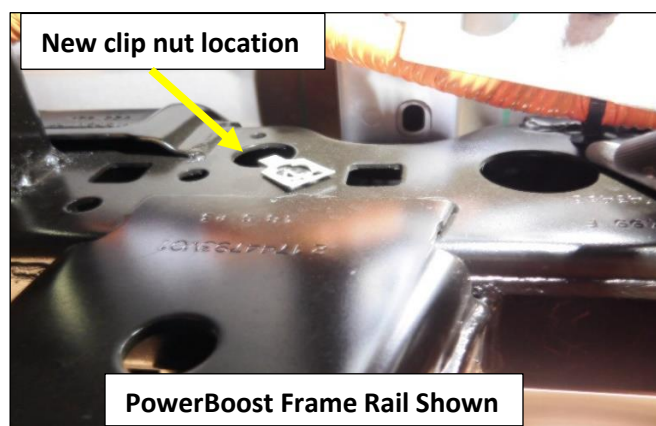

Figure 11
The FACTORY left side tailpipe frame hanger assembly will not be used for Non-Hybrid or PowerBoost models. The Flowmaster Frame hanger 535HA (17) will be installed in its place. It will be necessary to relocate the factory clip nut to a different location in the frame rail if it is not already there. Most PowerBoost frame hanger assemblies use the correct location. Most Standard F150 frame hanger assemblies use the correct location. PowerBoost vehicles will need the clip nut relocated, as shown in Figures 11 & 12.
2. Remove one of the existing frame hanger clip nuts and re-install it into the frame rail at the location in **Fig. 11**.